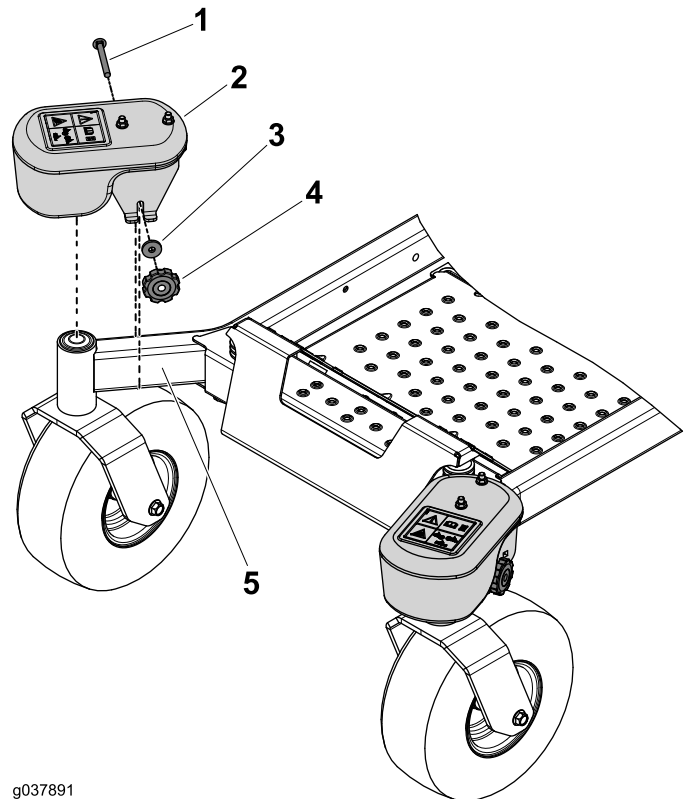

Figure 9
3. Use the knob, washer, and carriage bolt (3/8 x 3-1/2 inch) to secure a caster weight to each caster arm (Figure 9).